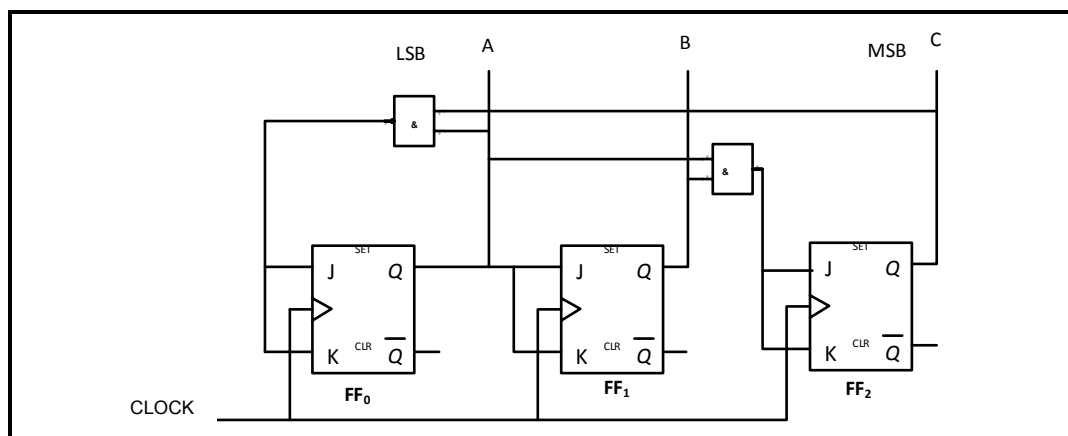

FIGURE 4.7: THREE-STAGE SYNCHRONOUS SELF-STOPPING UP-COUNTER
4.7 FIGURE 4.7 below shows a three-stage synchronous self-stopping up-counter. Explain the operation of this counter.